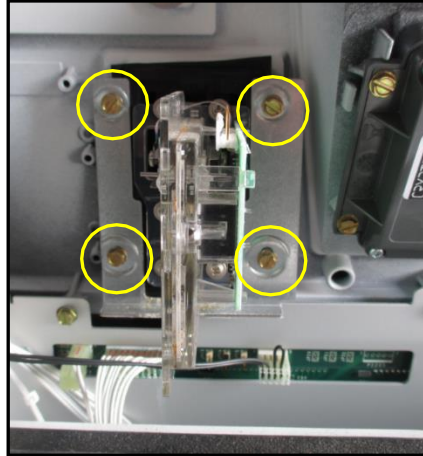

Fig 1.9 – Location of Card Reader plate screws
- 11.** Remove and discard the four #6 sheet-metal screws that fasten the card reader plate to the door and remove the card reader and plate from the dispenser door. The card reader plate can be discarded. It will not be re-installed. (Fig 1.9)